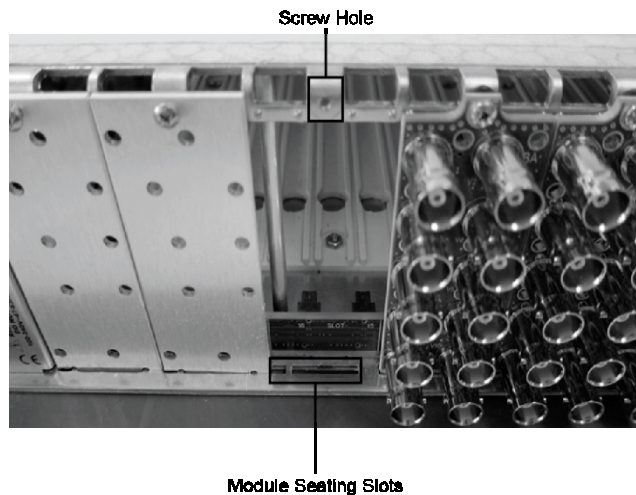

Figure 2.2 Rear Module Installation in an 20-Slot Frame (Cards not shown)
5. Seat the bottom of the rear module in the **Module Seating Slot** at the base of the frame’s back plane. (**Figure 2.2**)